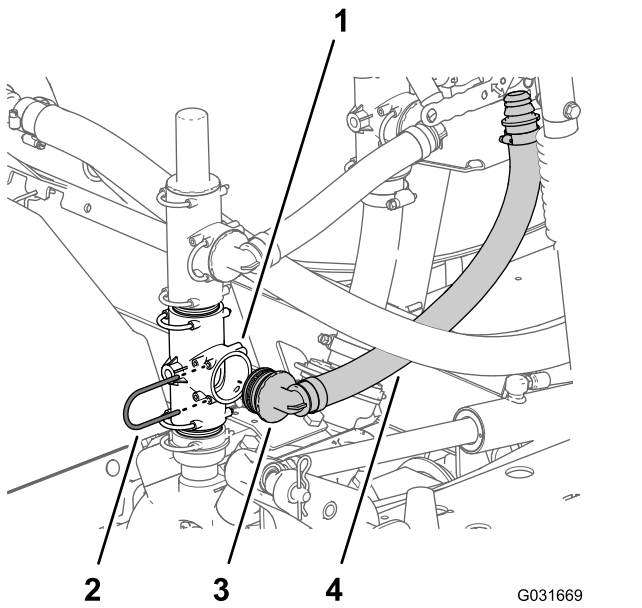

Figure 10
1. Align the other 90° fitting of the supply-hose assembly with the open port of the lower T-fitting at the sprayer pump and insert the 90° fitting until it is seated (Figure 10).
2. Secure the 90° fitting to the T-fitting at the sprayer pump with the retainer (Figure 10) that you removed in step 1 of Repositioning the Pressure Relief Valve and Upper T-Fitting (page 5).